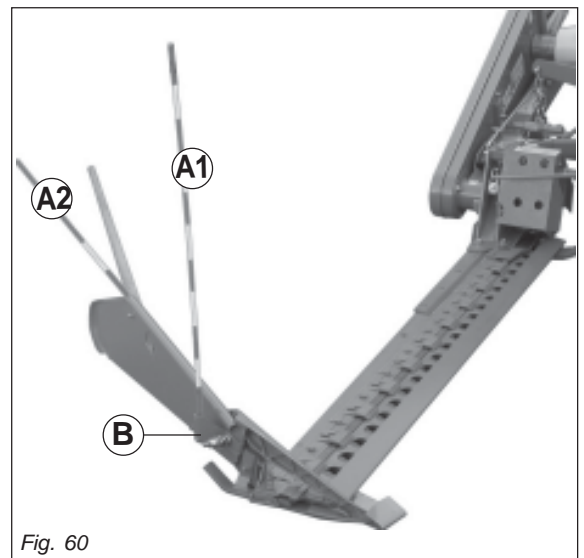

Fig. 60
The hazard bar has been included with the equipment of the machine for safety reasons, to indicate the space occupied by the mower at work. For working, position the hazard bar in position (A1, Fig. 60) and lock it in place with the screw (B). For transport put it in position (A2).
- Fit the guards over the cutters and outer skid (C Fig. 60)